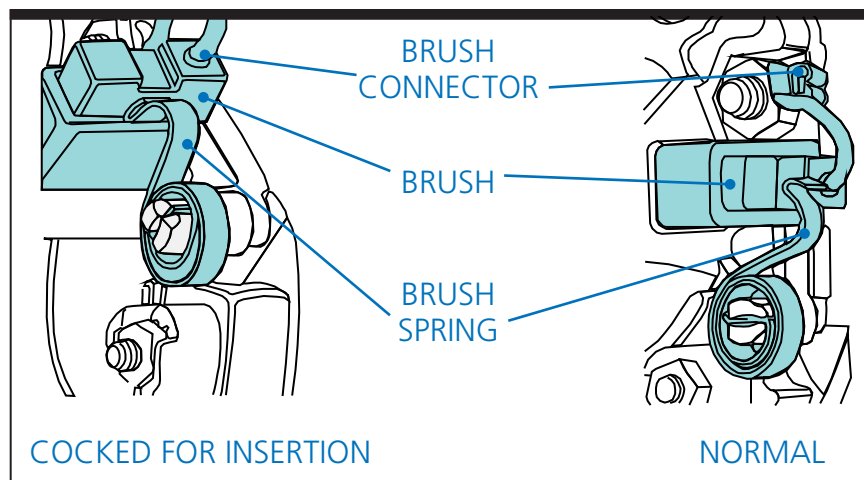

Figure 4-2. DC Motor Brushes with Gasketed Cover Removed
Step 4—Replace Brushes. Lift the brush spring from the end of the brush (see Figure 4-2). Remove the brush connector, withdraw the brush and inspect the length. To prevent motor damage, brushes should be replaced when or before they reach the half way point. Reverse procedure to replace brush. Replace motor access and feeder covers. Connect power and air. Initial and date the Maintenance Log.